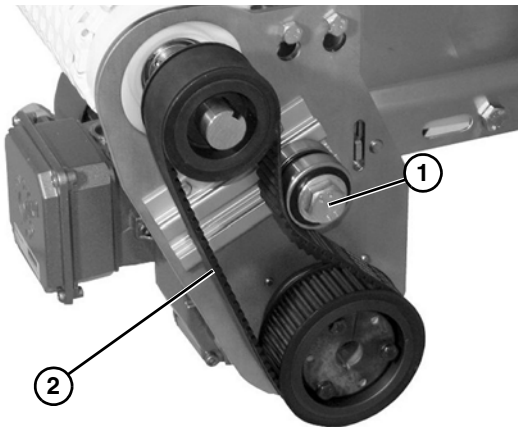

Figure 14
2. Loosen tensioner screw (Figure 14, item 1).